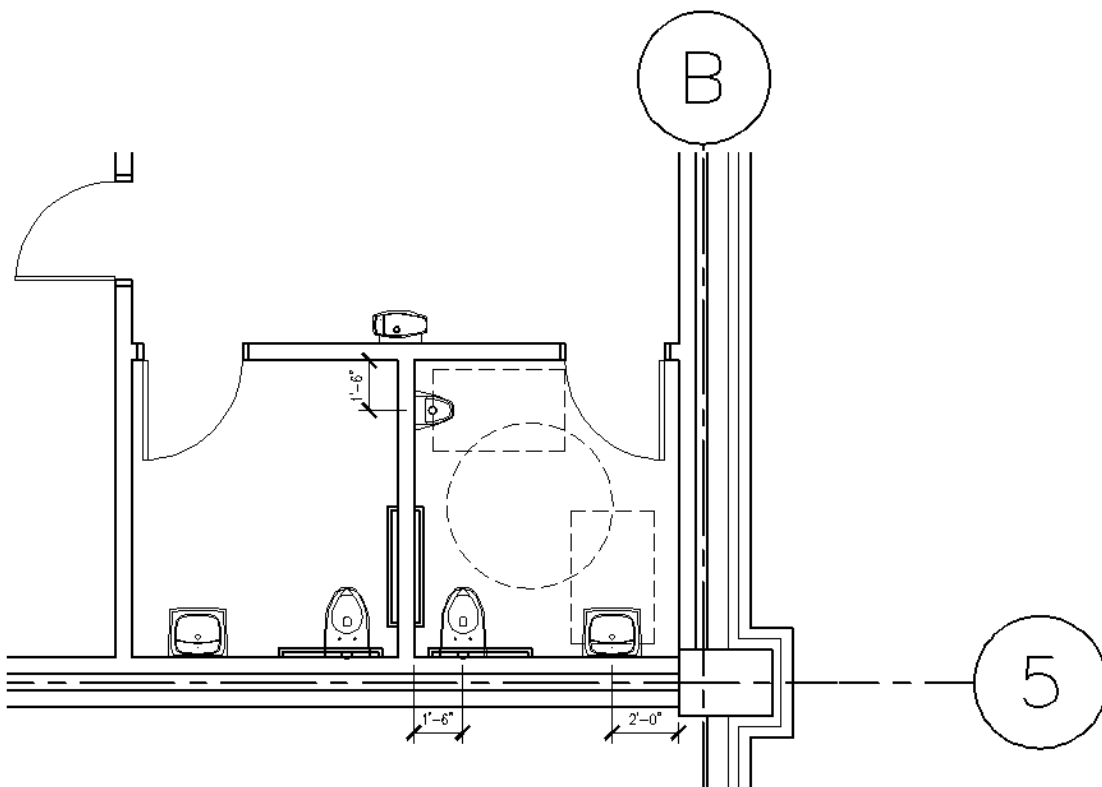

Figure 3-1.6 Place the fixtures shown (do not draw the dashed lines)
15. Add the plumbing fixtures as shown in Figure 3-1.6, *plus*:
The dashed lines shown in Figure 3-1.6 represent the clear floor space that must be considered when designing the layout of a toilet room. This tutorial will not get into the specifics related to the clear floor space at each fixture type; but, you may want to consider creating a special layer to place this information on so it can be turned off when not needed.